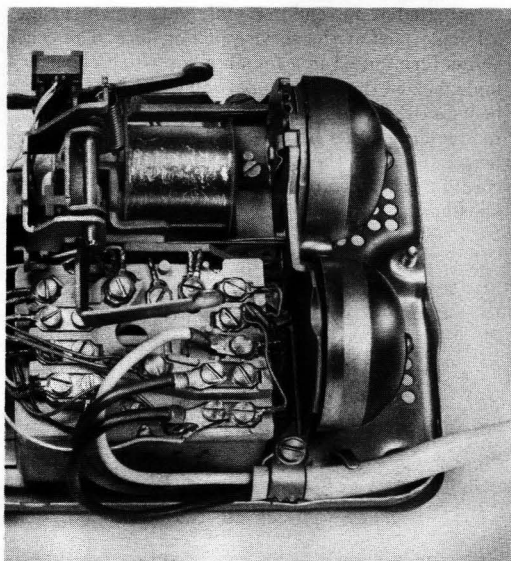

Fig. 6—Securing C Weatherproof Cord in Telephone Set
2.07 The C weatherproof cord (Fig. 6) is the same as the B weatherproof cord except that the female plug on the recreational vehicle or boat end is replaced with spade-tipped leads for terminating the cord directly in a 500- or 2500-type telephone set. An S hook assembly is provided for fastening the cord via the ringer mounting screw. Terminate leads (BK) for tip, (W) for ring, and (G) for ground.